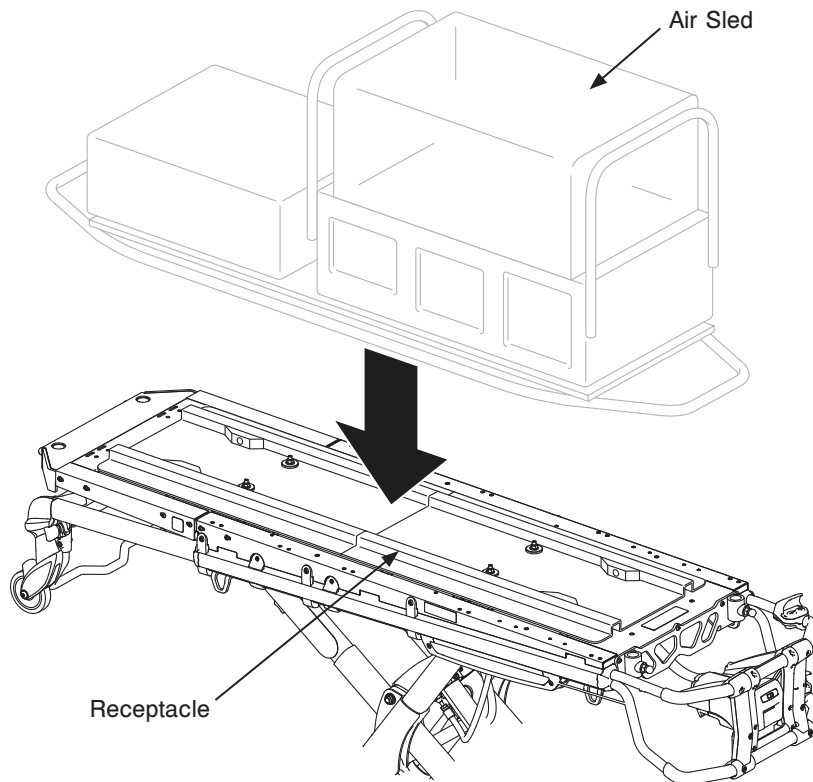

Figure 1
- The Stryker model 6510-042-000, no adaptor option is designed to secure incubators without an adaptor to the model 6510 Power-PRO™ Incubator Transport (IT) ambulance cot.
1. Bolt the receptacle to the litter frame using the supplied fasteners (Figure 1).
2. Insert the Air Sled into the receptacle using the latching system which is part of the Air Sled apparatus (Figure 1).